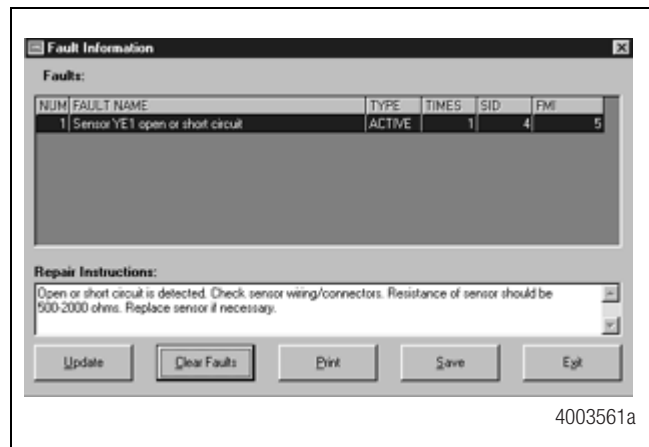

Figure 27
- Apply 12 volts DC to the red wire (stoplight power). Check the screen for the correct voltage (9.4 to 14 volts). Stoplight power voltage is displayed in the SECONDARY field. Figure 27.